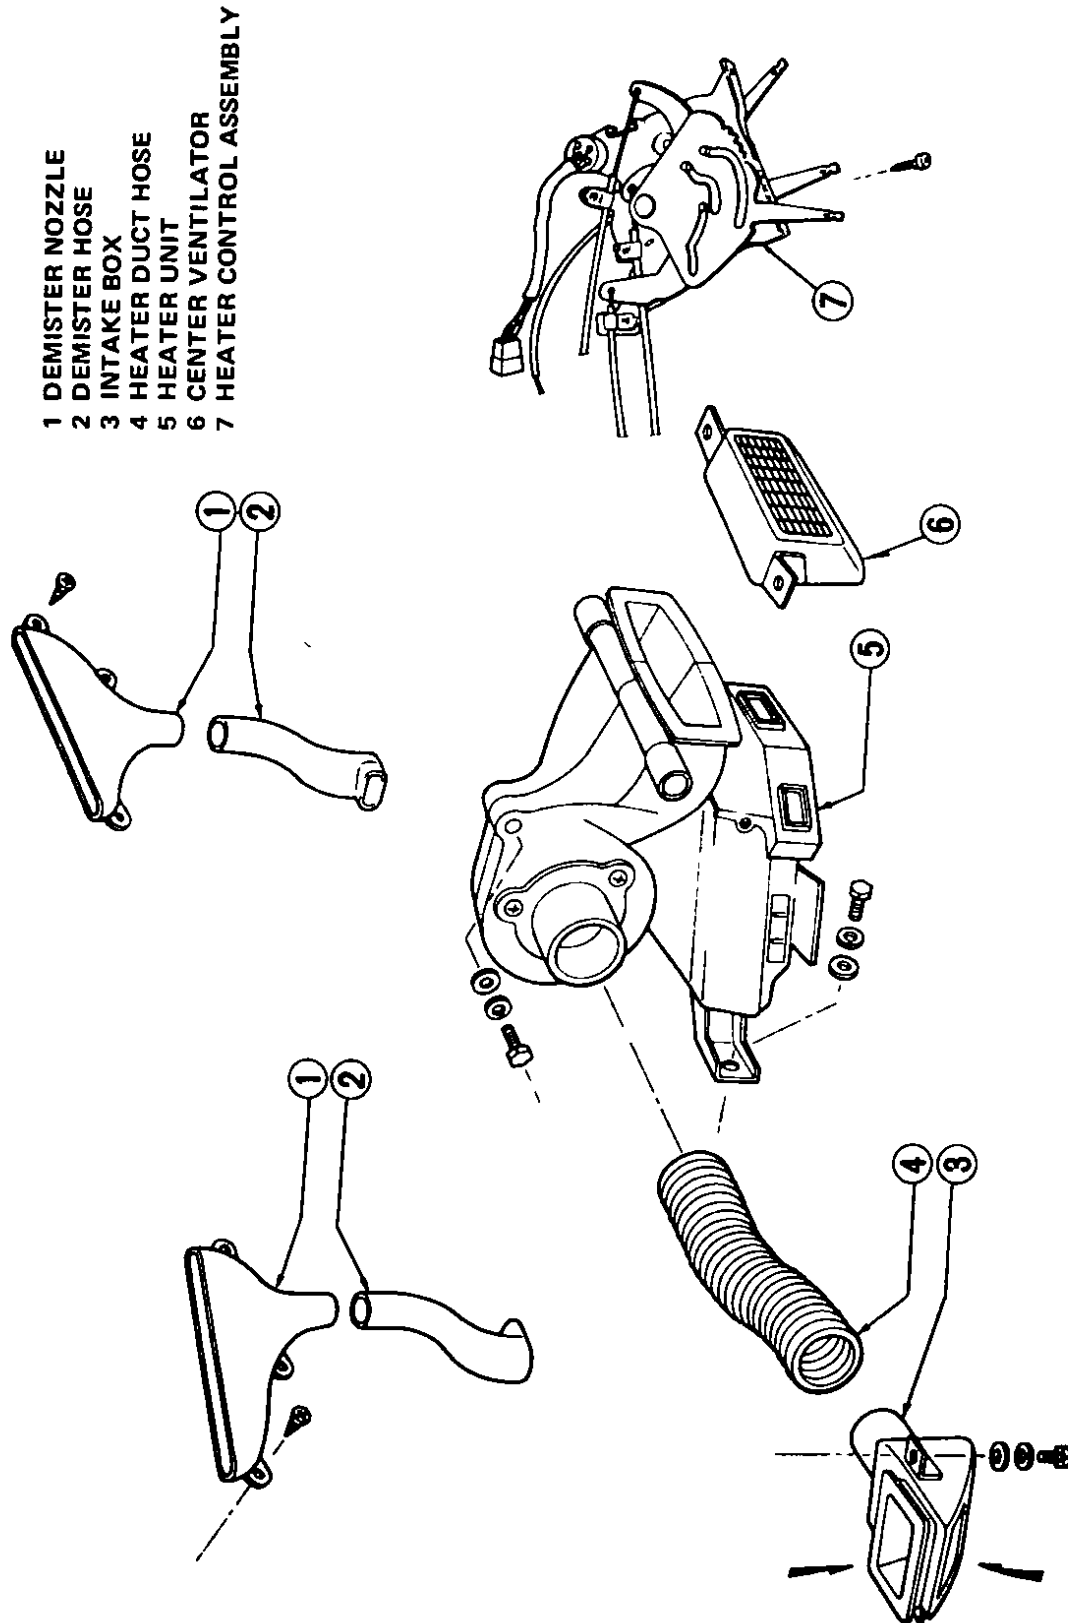

Fig 100 Heater system – Model 610
- 4 Remove the hose clamps and disconnect inlet and outlet hoses, Fig 100